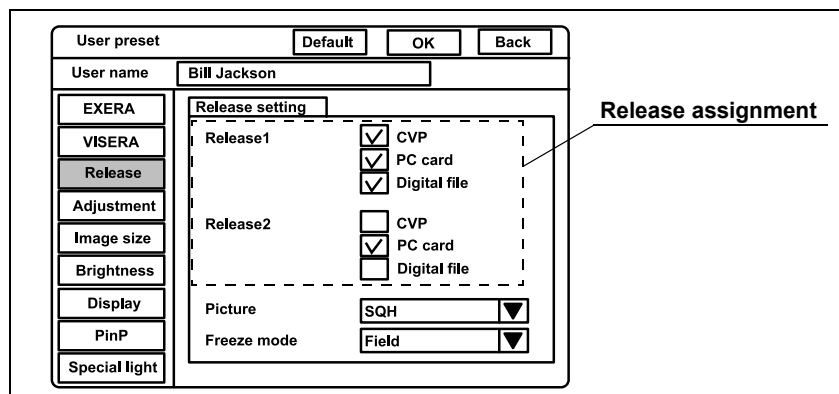

Figure 9.18
1. Click “Release” on the system setup menu. The setting items appear on the right side of the window (see Figure 9.18).
2. Click the check box of the device to be used. The selected check box is highlighted (see Figure 9.18). It is possible to select multiple devices.